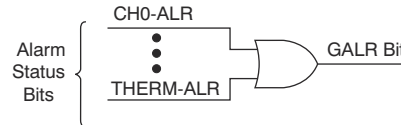

图 7-12. Global Alarm Bit
The device continuously monitors all analog inputs and temperatures in normal operation. When any input is out of the specified range, an alarm triggers. When an alarm state occurs, the corresponding individual alarm bit in the status register is set (1). The global alarm bit (GALR) in AFE configuration register 0 is the OR of individual alarms, see 图 7-12. When the ALARM-LATCH-DIS bit in the alarm control register is cleared (0), the alarm is latched. The global alarm bit (GALR) maintains 1 until the corresponding error conditions subside and the alarm status is read. The alarm bits are referred to as being *latched* because these bits remain set until read by software. This design makes sure that out-of-limit events cannot be missed if the software is polling the device periodically. All bits are cleared when reading the status register, and all bits are reasserted if the out-of limit condition still exists on the next monitoring cycle, unless otherwise noted.